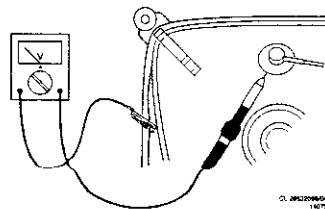

Fig. 3.1
3. To prevent damage to ICs and transistors any flash-over of the EHT should be avoided. To prevent damage to the picture tube the method, indicated in Fig. 3.1, has to be applied to discharge the picture tube. Make use of an EHT probe and a universal meter (position DC-V). Discharge until the reading of the meter is 0V (after approx. 30s).